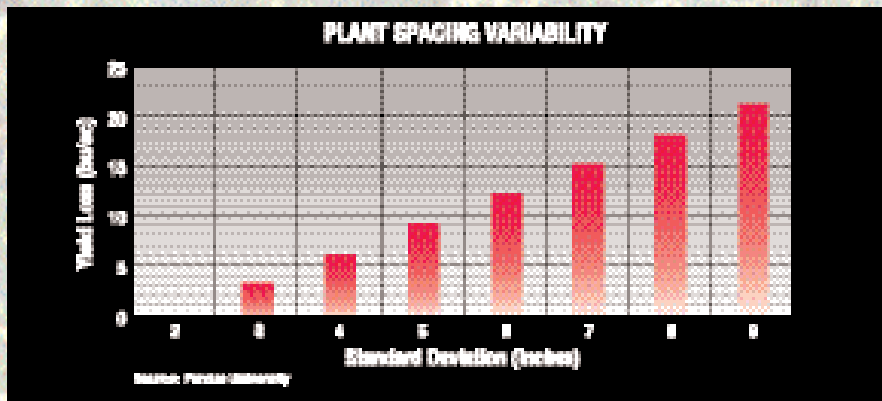

FIGURE 1. As the variability in plant-to-plant spacing increases, yield loss is observed for corn.
- Typically **seed-to-seed spacing that is off target three inches or more surpasses the agronomic threshold** of what corn plants seem to tolerate without yield loss (*Purdue University & Pioneer HiBred Int'l*). (see **Figure 1**)